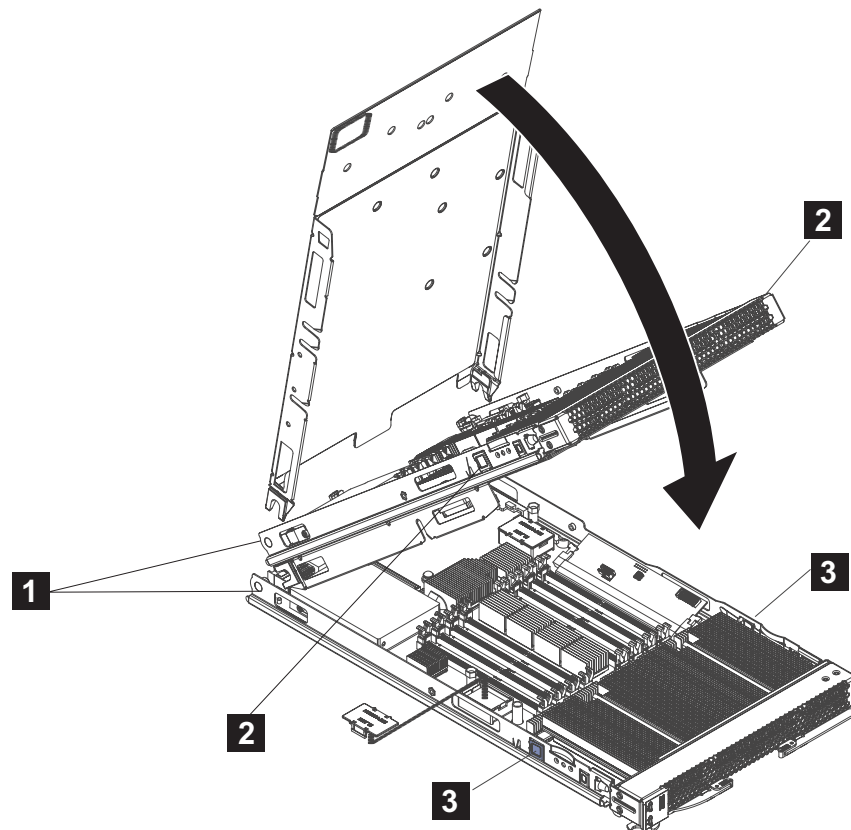

Figure 22. Installing the cover
2. Lower the cover so that the slots at the rear slide down onto the pins (**1** in Figure 22 on page 45) at the rear of the blade server. Before you close the cover, verify that all components are installed and seated correctly and that you have not left loose tools or parts inside the blade server.